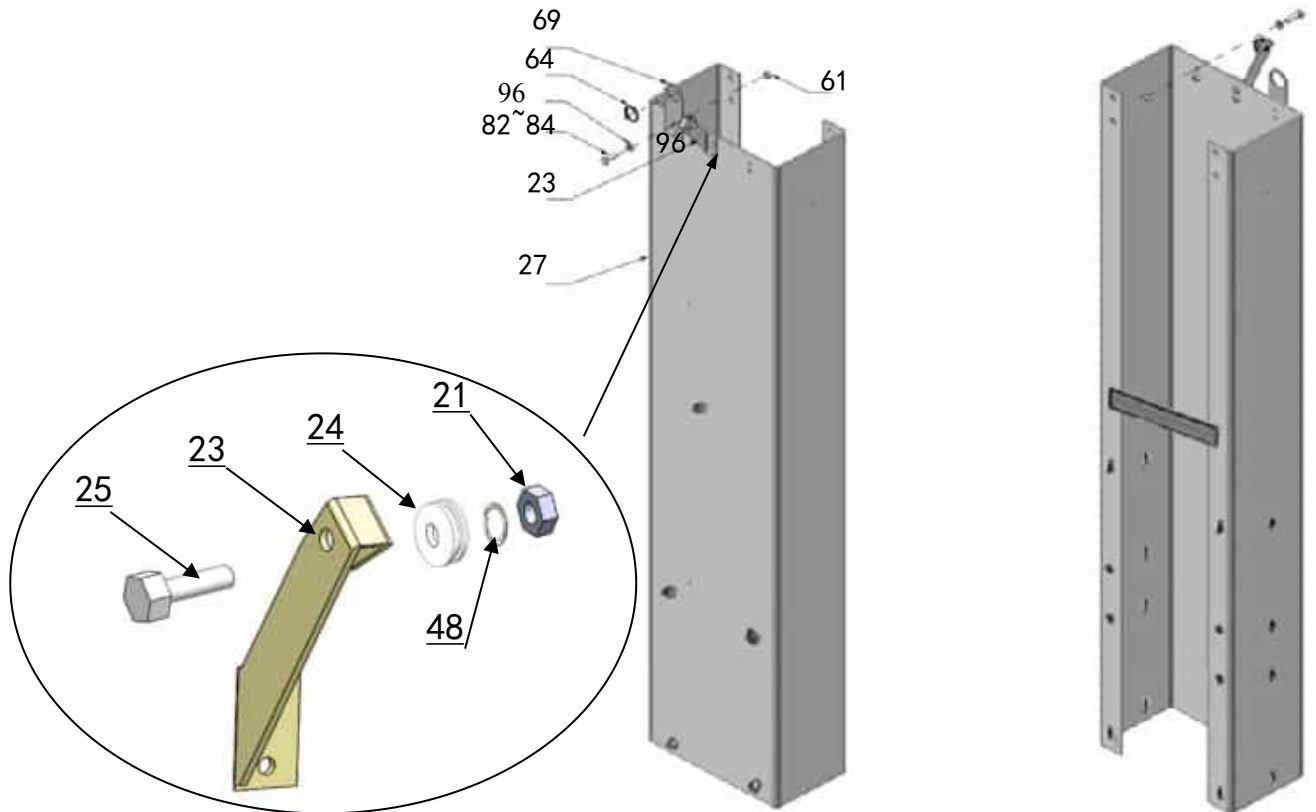

Fig. 14
D. Install parts of outer column. (See Fig. 14).